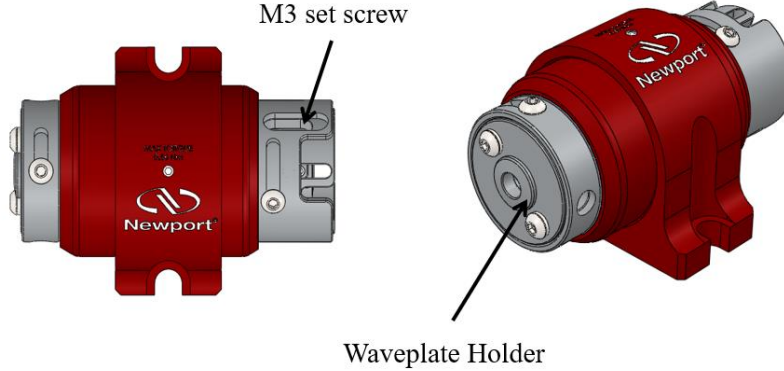

Figure 4: Waveplate Tuning
- This reveals an M3 set screw which secures the waveplate holder (Figure 4).
- Adjust the waveplate holder to the desired output polarization (Figure 4).